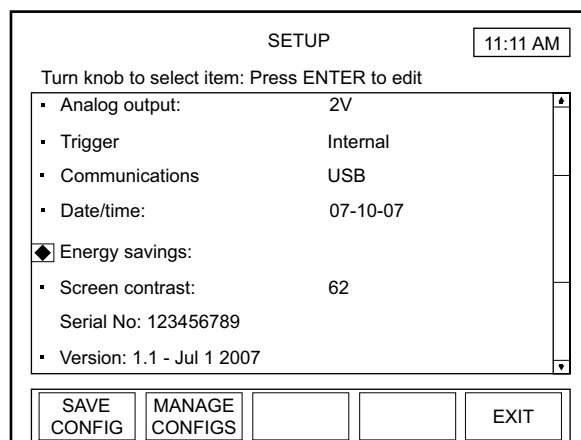

Figure 4-46. SETUP: Energy Savings
1. On the main SETUP screen, turn the Selection knob to move the diamond indicator to Energy Savings (Figure 4-46).